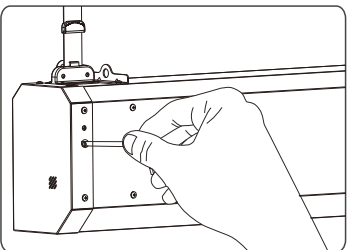

Figure 25
- b.Lower limitation adjusting. Take off the knob from the hole and use the provided allen key to adjust (figure 25). A clockwise adjustment will extend the screen (The distance between the screen and installation position will increase) and a counter-clockwise adjustment will retract the screen (The distance between the screen and installation position will decrease).